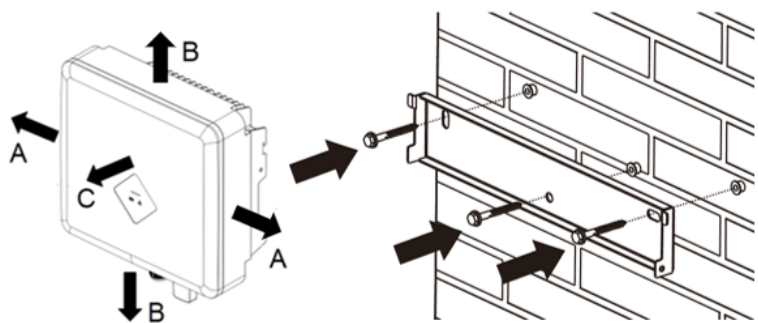

Fig. 9. Mounting the wall bracket
- Minimum clearances to be observed during installation [see Fig. 9 on Page 12]